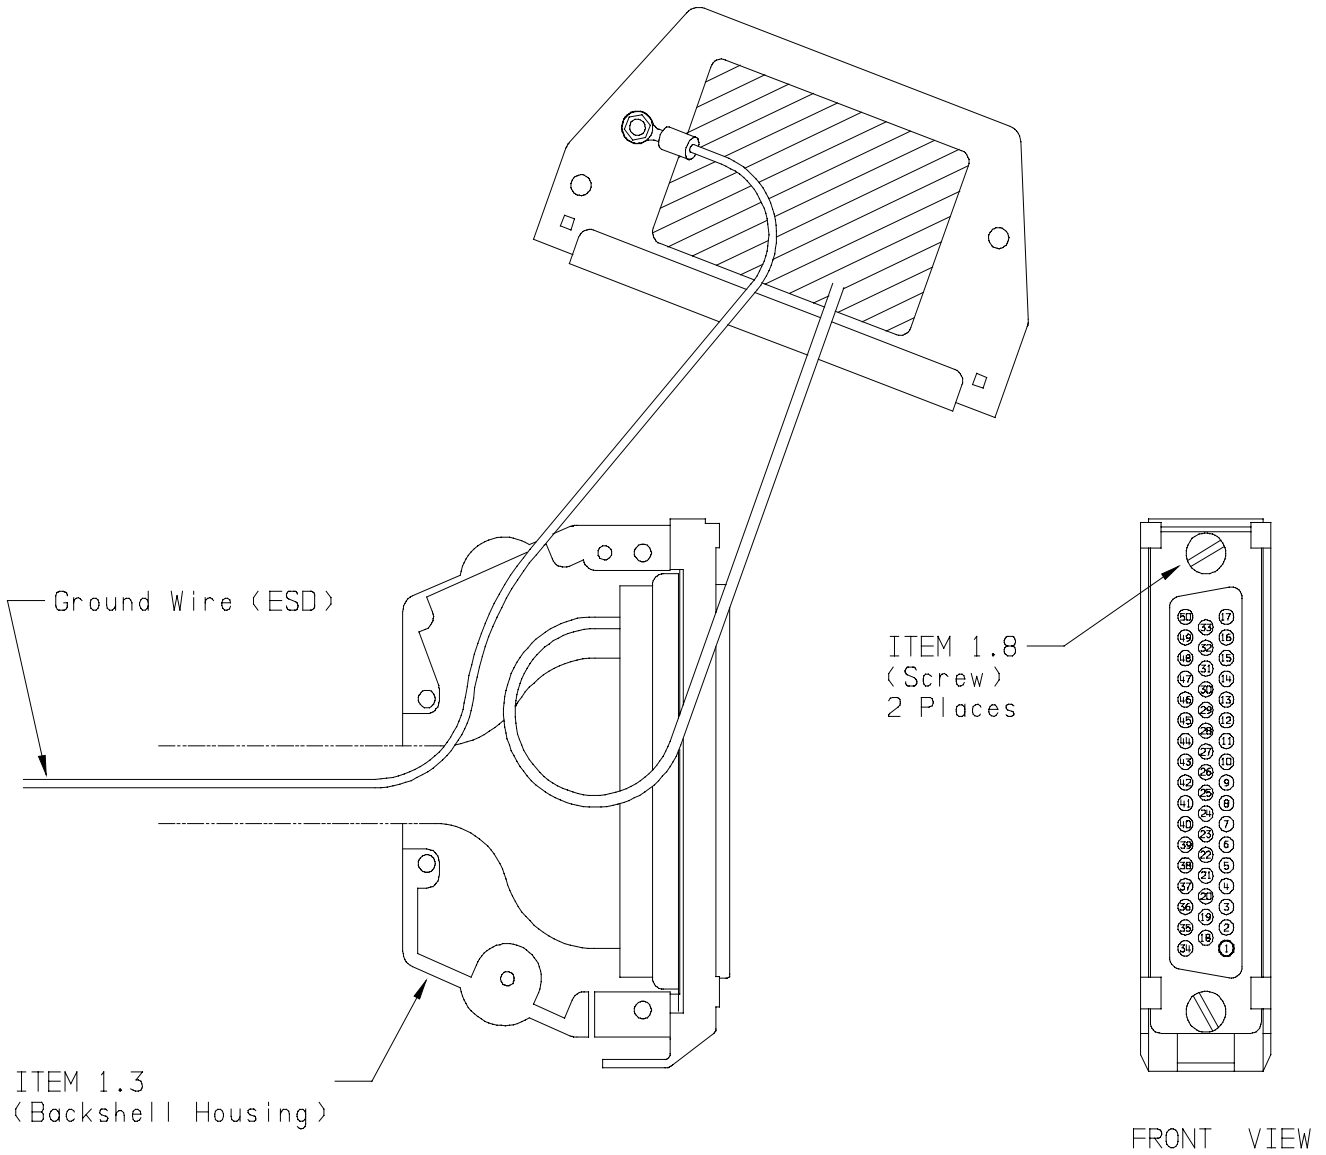

FIGURE 2-1.4 MK XXII EGPWS CONFIGURATION MODULE
STEP 4 Install item 1.3 (Backshell Housing) onto connector using item 1.8 (Screws) as shown in figure 2-1.4 below: